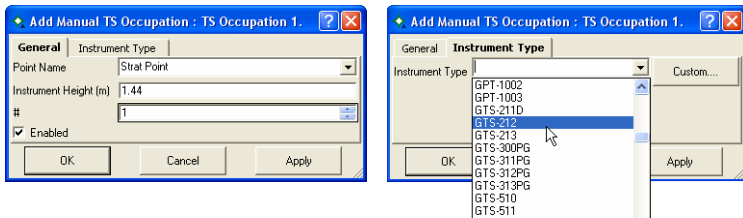

Figure 5-100. Add Manual TS Occupation Dialog Box
- In the *General* tab of the *Add Manual TS Occupation* dialog box (Figure 5-100):